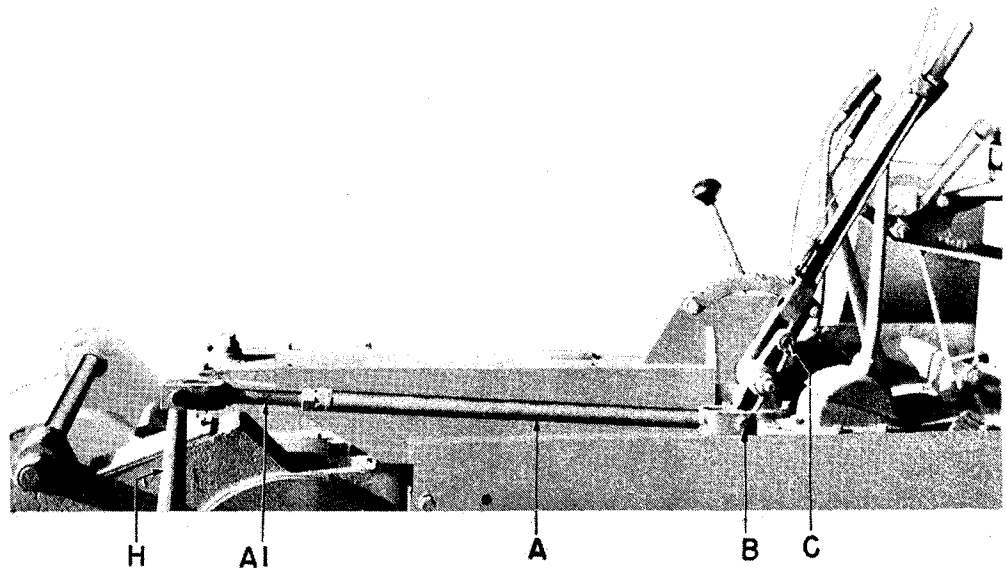
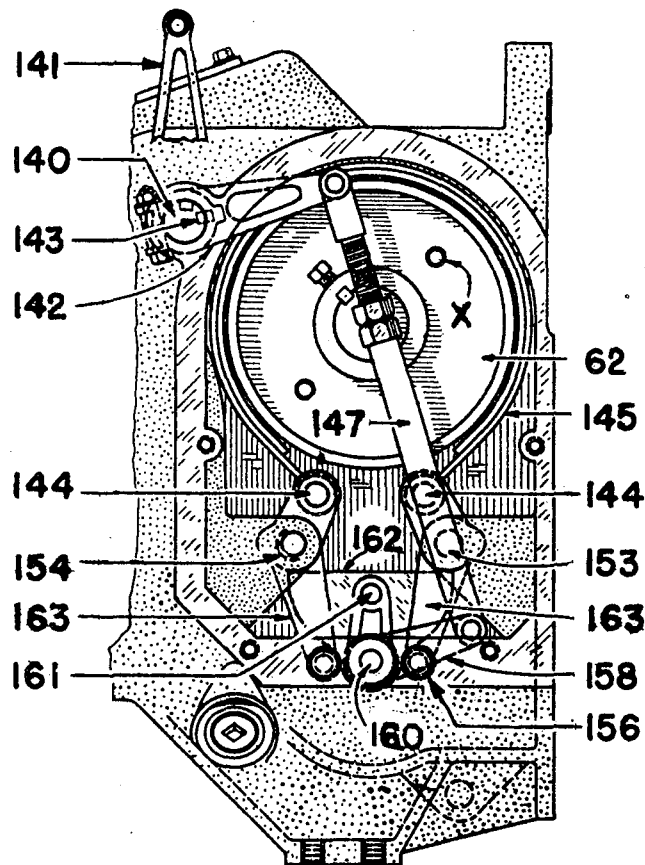

Figure 2 (Underwinding)
Figure 5A
1. The brake link "A" should be connected to the LOWER HOLE in the handlever as at "B," Figure 2, page 9, when the DRUM IS UNDERWINDING.
A new brake lining will require several adjustments until the lining becomes glazed. Close brake adjustment may then be obtained by means of the threaded rod end "A1", Figures 2 and 3. Loosen jam nut and remove rod end pin connecting link to brake lever. Screw the threaded end of link in until hand lever comes to proper position on quadrant, then tighten jam nut. When this adjustment has been exhausted, additional adjustment is provided on a vertical link within the brake compartment on the right hand side frame as shown in Figure 5A, item 147, on page 13.
Remove the brake compartment cover plate and gasket. Remove rod end pins in link (147), Figure 5A. Loosen jam nut, and if overwinding drum, **SHORTEN** link (147); if underwinding drum, **LENGTHEN** link (147). When link (147) is altered in length, it should be changed sufficiently to allow the outside adjustment to be restored to its original position when the lining was new.
Refer to Figure 5A.